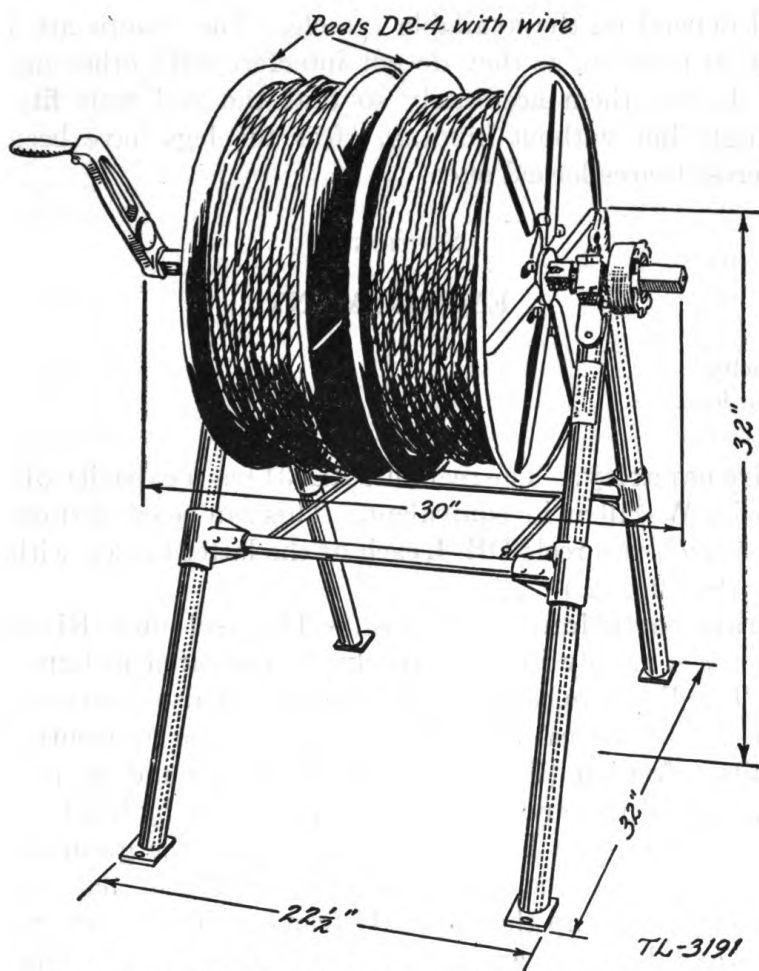

FIGURE 12.—The reel unit RL-31 loaded with two reels DR-4. Important dimensions of the RL-31 are given.
9. Wire capacity.—The reel unit RL-31 has a capacity of one mile of field wire W-110 or its equivalent. This can be carried on a single reel DR-5 or on two reels DR-4, each of the latter loaded with ½ mile of wire. (See fig. 12.)